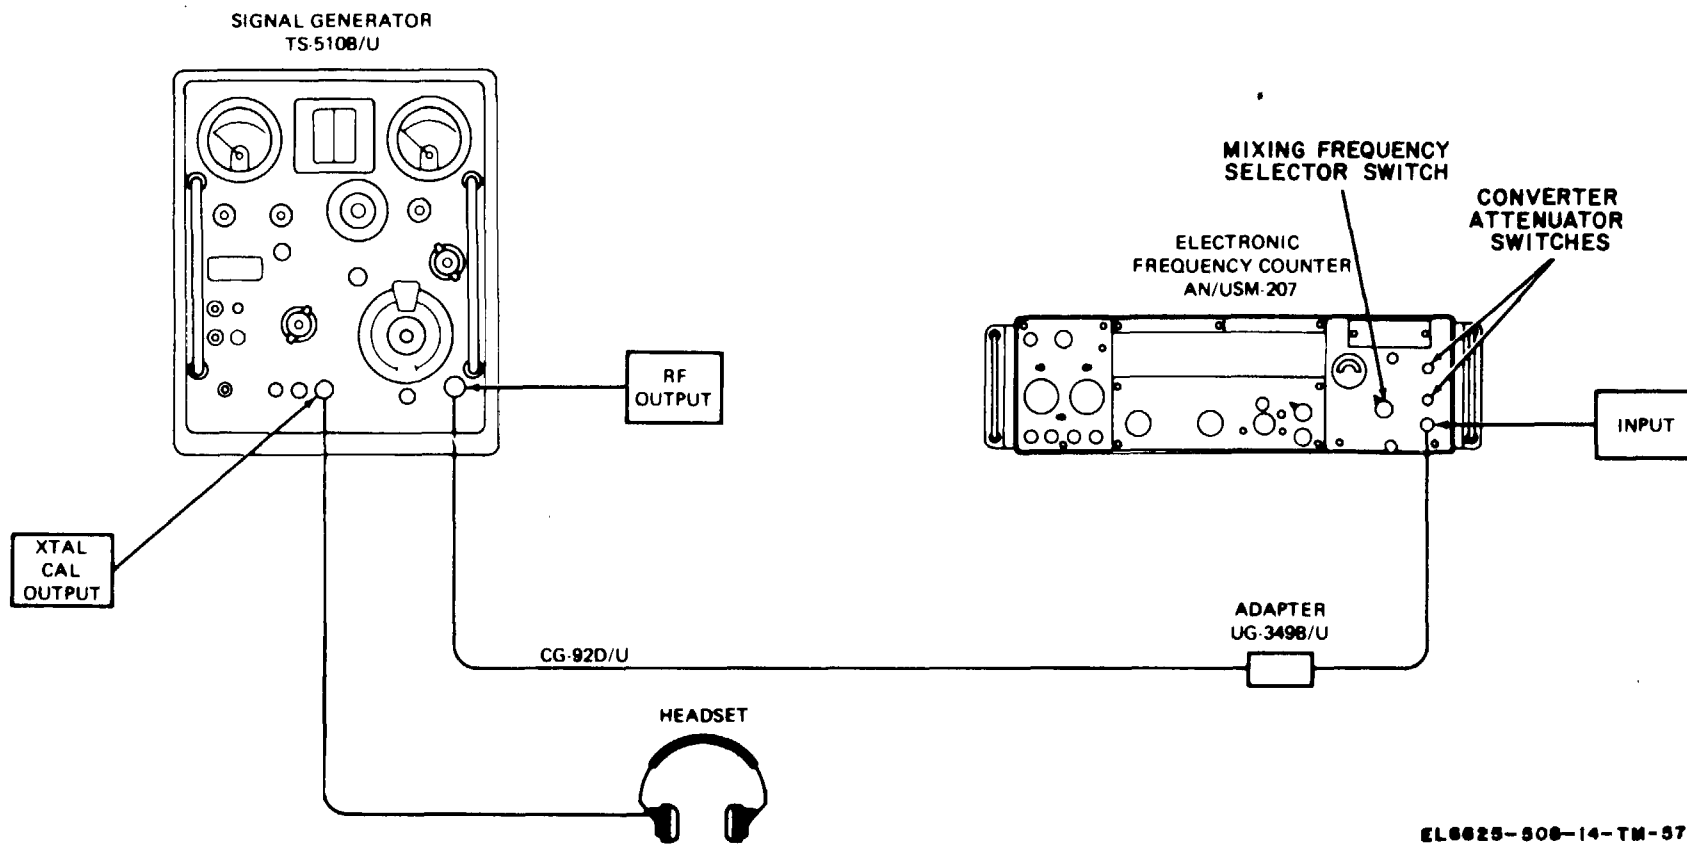

Figure 6-28. Crystal calibration accuracy test connections.
(1) Electronic Frequency Counter AN/USM-207
(2) Coaxial Cable CG-92D/U
(3) Adapter UG-349BIU
(4) Headset (PL-55 plug)
b. Test Connections and Conditions. Connect the equipment as shown in figure 6-28.